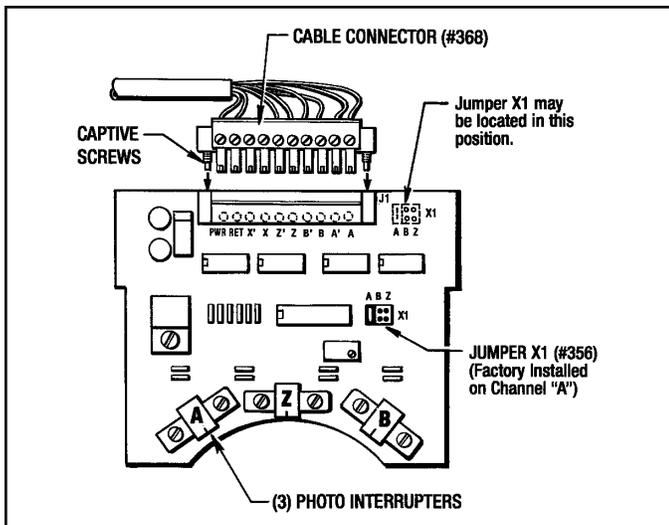

Figure 6.1 - Circuit Board Connector
1. Take out the (4) Screws (#225) and remove the Top Cover (#372) and the upper Gasket (#19) from the Upper Enclosure (#18). This gasket is reusable.
3. Loosen the (2) captive screws in the Cable Connector (#368) and unplug it from the Circuit Board (#355). (See Figure 6.1)